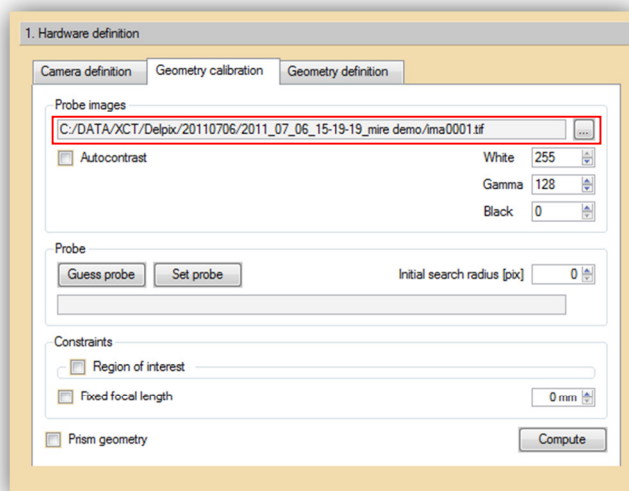

Figure 3.7: Image loading for geometry calibration
- 1- Image loading (see figure 3.7):